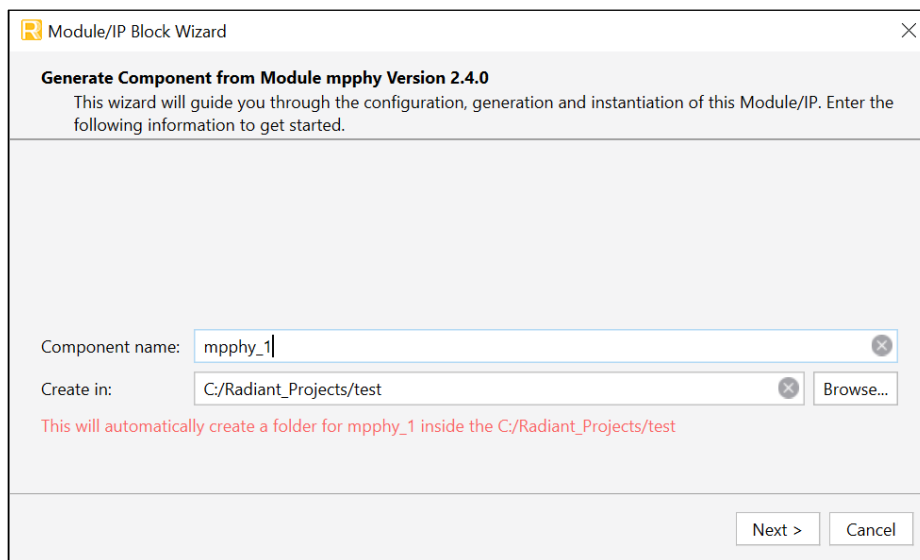

Figure 5.1. Module/IP Block Wizard
3. The **Module/IP Block Wizard** opens as shown in Figure 5.1.
- Click **Finish**. All the generated files are placed under the directory paths in the **Create in** and the **Component name** fields shown in Figure 5.1.